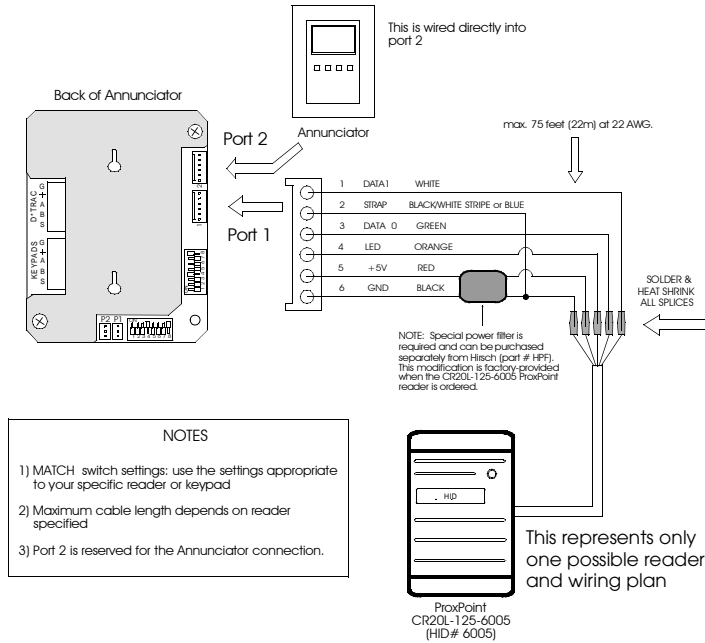

Figure 6: Connecting Reader to the DTA
- b. Connect the Reader to Port 1 on the DTA's MATCH2 board as shown in the example in Figure 6.